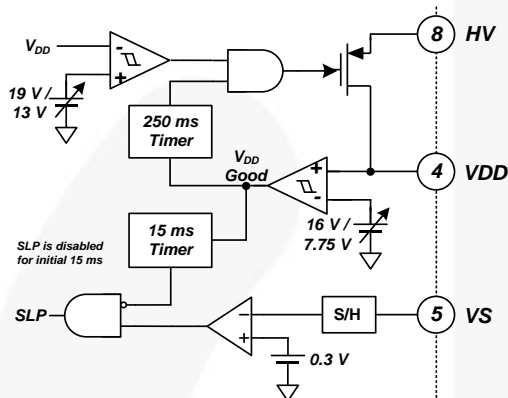
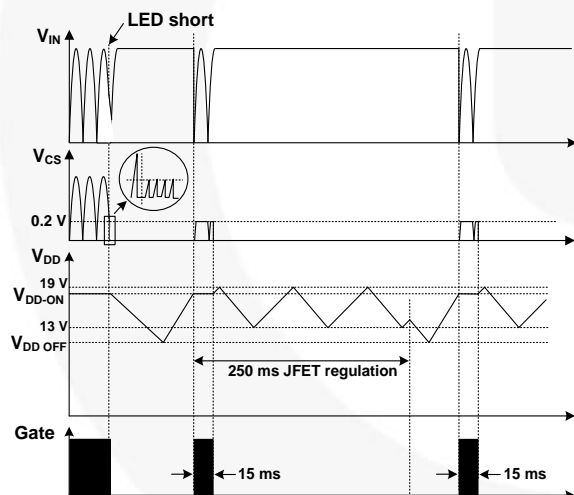

Figure 24. Internal SLP Block
Figure 25. Waveforms in Short-LED Condition
In case of a short-LED condition, the secondary diode is stressed by high current. When V_S voltage is lower than 0.3 V due to a short-LED condition, the cycle-by-cycle current limit level changes to 0.2 V from 1.0 V and SLP is triggered if the V_S voltage is less than 0.3 V for four (4) consecutive switching cycles. Figure 24 and Figure 25 show the SLP block and operational waveforms during LED-short condition. To set enough auto-restart time for system safety under protection conditions, V_{DD} is maintained between 13 V and 19 V, which is higher than UVLO, for 250 ms after V_{DD-ON} . SLP is disabled for an initial 15 ms after V_{DD-ON} . SLP is disabled for normal LED condition.